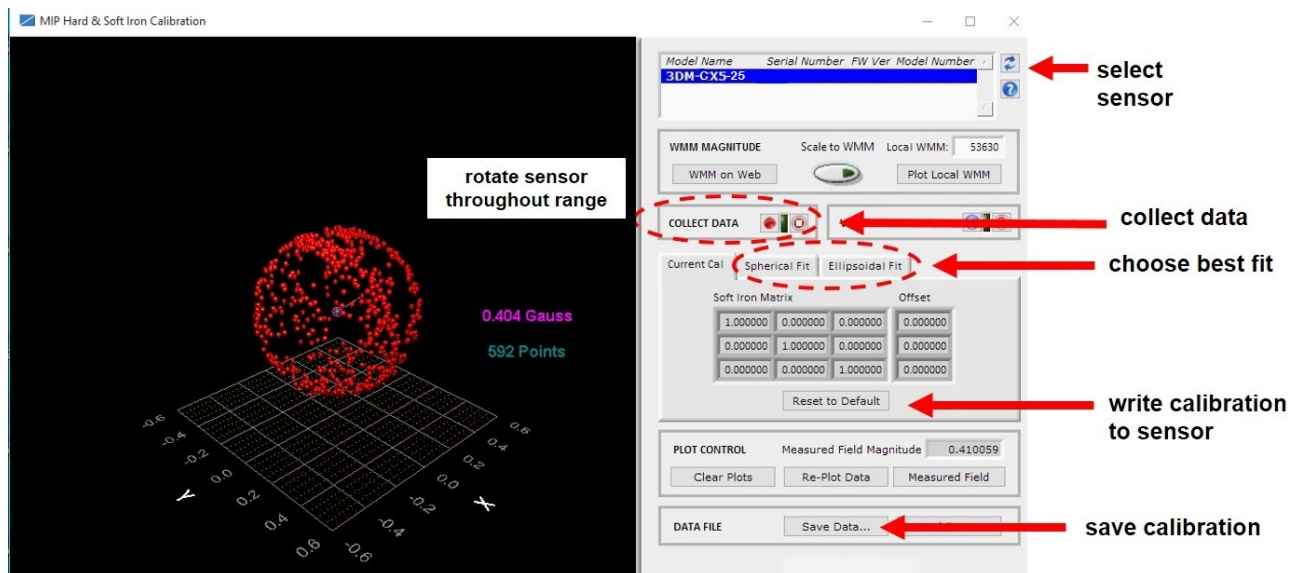

Figure 27 -Collect Calibration Data
- Click the Spherical Fit or Ellipsoid Fit button, depending on the application (Figure 27 - Collect Calibration Data ). Spherical Fit is often best for applications with calibration rotations restricted to a 2D plane: for example, a ground vehicle or a boat, because it will not likely not be rotated on all three axis. Ellipsoid Fit is generally a better correction when soft iron effects are present but only if enough data points can be collected in all quadrants. If the range of motion is restricted in one dimension, the Spherical Fit may be